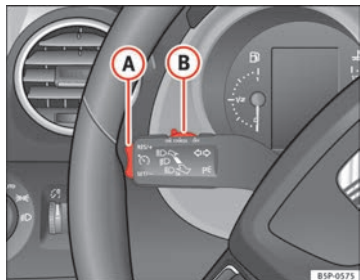

Fig. 155 Turn signal and main beam headlight lever: switch and rocker switch for the cruise control
- Press the lower part **SET/-** of the rocker switch ⇒ Fig. 155 **A** once briefly when you have reached the speed you wish to set.
- Press the upper part **RES/+** of the rocker switch ⇒ Fig. 155 **A** to increase the speed. The vehicle will continue to accelerate as long as you keep the rocker switch pressed. When you release the switch, the new speed is stored.
- Press the lower part **SET/-** ⇒ Fig. 155 **A** of the rocker switch to reduce the speed. The vehicle will automatically reduce its speed for as long as you keep the switch pressed. When you release the switch, the new speed is stored.
Cruise control is switched off if you reduce speed by depressing the brake pedal. You can reactivate the control by pressing once on the upper part of the rocker switch **RES/+** ⇒ Fig. 155 **A**. ■